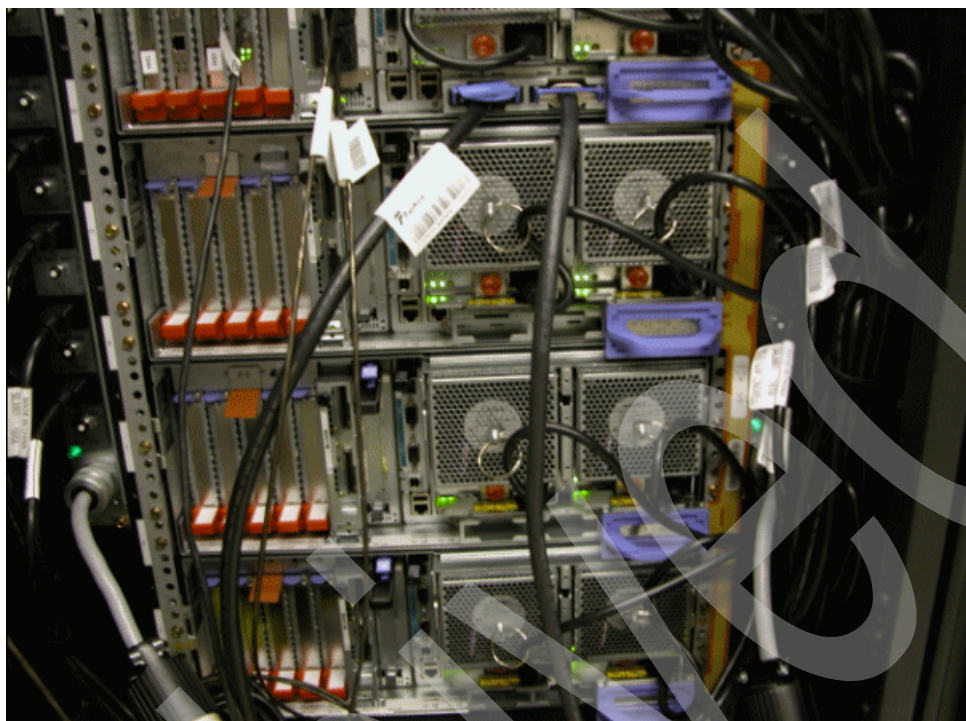

Figure 2-2 FSP cable
19. Install the flexible service processor cable on the right side of the rear of the CEC unit (Figure 2-2).